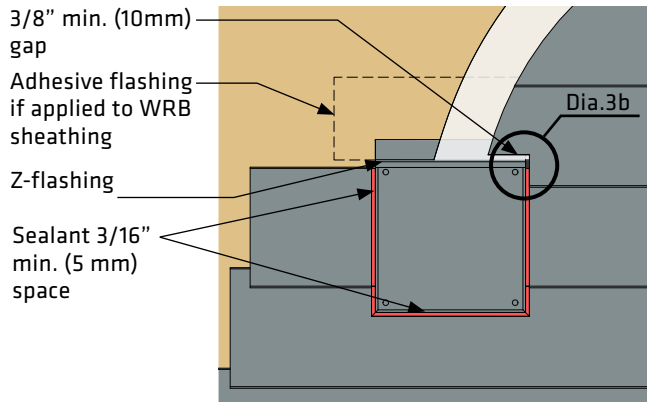

Figure 3a
- Properly integrate flashing with a WRB according to the manufacturer's instructions. Use housewrap, adhesive flashing housewrap tape or other items as needed to maintain counter-flashing principle. (Figure 3a)
- Leave a minimum 3/16 inch (5 mm) space at bottom and sides to allow for proper sealing. (Figure 3a)